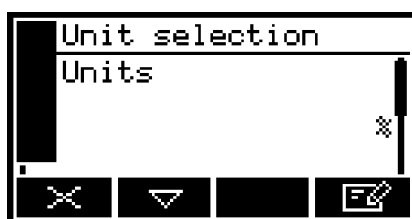
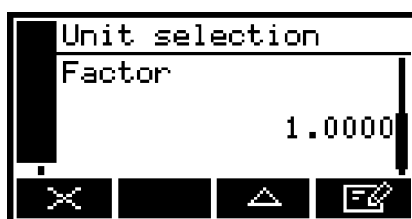

Figure 24 - The Currently selected units screen
Figure 26 - The Units conversion factor screen
- If you have a 1-measurement Multi Purpose, the Currently selected units screen will be displayed, as shown in Figure 24.
- If you have a 2-measurement Multi Purpose, use the  and  soft keys to highlight the required gas sensor, then press the  soft key: the Currently selected units screen (for the selected gas) will then be displayed, as shown in Figure 24.
6. With the Currently selected units screen (Figure 24) shown, press the  soft key. The Units conversion factor screen will then be displayed, as shown in Figure 26.